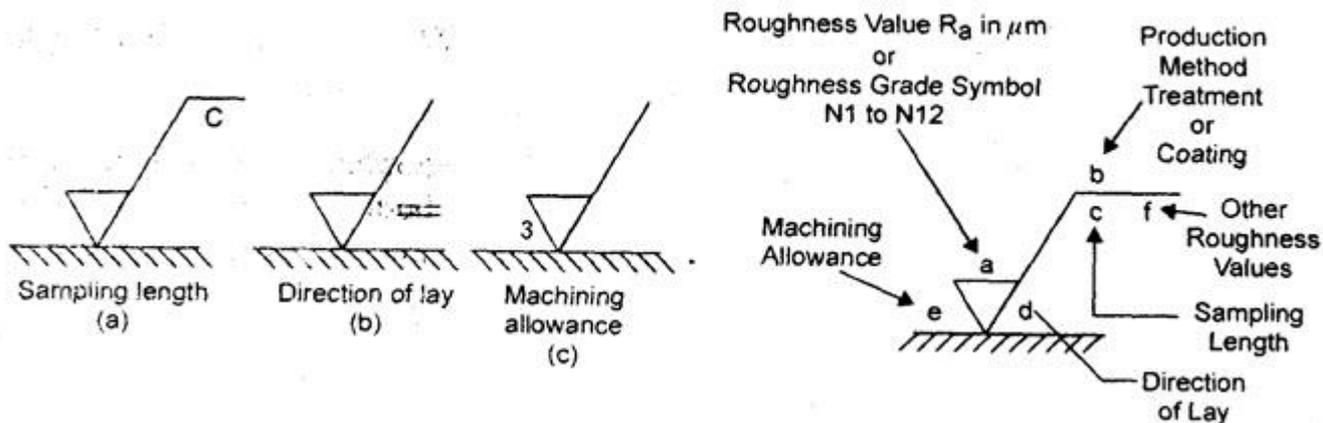

Fig. 1.11
2. If it is necessary to indicate the sampling length, it is shown adjacent to the symbol (Fig. 1.11 (a))
3. If it is necessary to control direction of lay or the direction of the predominant surface patterns, it is indicated by a corresponding symbol added to the surface roughness symbol (Fig. 1.11 (b))
4. Whenever, it necessary to specify the value of machining allowance, it is indicated in the left of the symbol (Fig. 1.11 (c)). This value is generally expressed in millimetres.
Roughness should be placed relative to the symbol as shown in Fig. 1.11 (d)